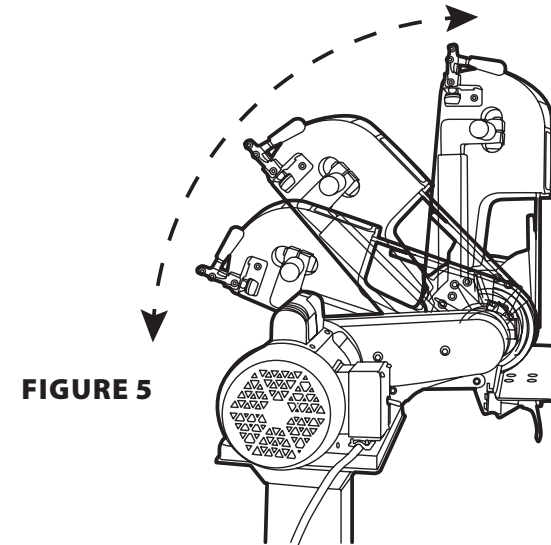
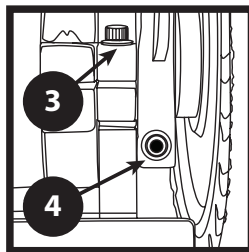

FIGURE 5
FIGURE 2
2. Locate the 5/16" Allen screw that secures the table support arm to the frame and loosen it. (Figure 2)
4. Next, loosen the contact wheel guard bolt with a 3/16" Allen wrench. The machine can then be adjusted to positions between vertical to horizontal, (Figure 5) pivoting the machine and tightening. Take precautions to not over tightening the Allen screws. As a rule of thumb, a 1/4 turn past snug will suffice. (Figure 2)
1. Using a 5/16" Allen wrench, loosen the bolt that clamps down the main support frame of the machine (See Figure 2).